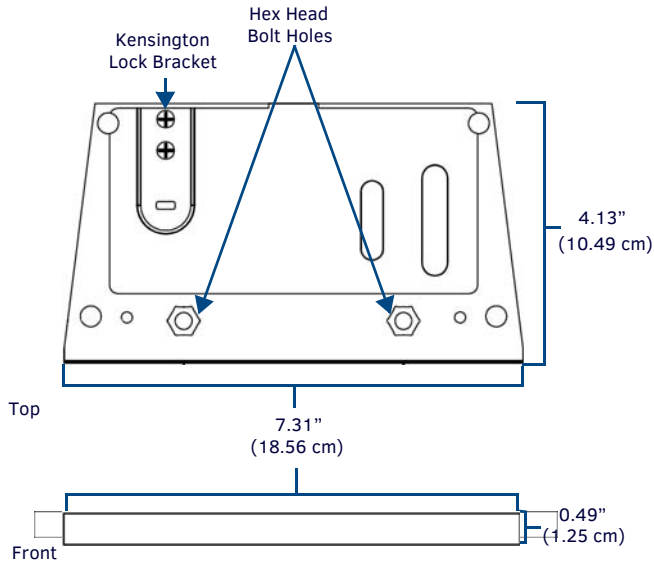
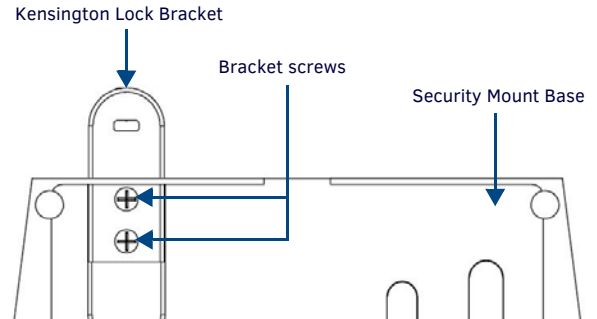

FIG. 1 MXA-STMK-07 SECURE TABLE MOUNT KIT
FIG. 8 KENSINGTON LOCK BRACKET INSTALLATION
- On the security mount base (FIG. 1), loosen the two screws holding the Kensington Lock bracket to the base (FIG. 8) and remove the bracket.
- Reverse the bracket in its slot so the rounded end faces outward (FIG. 8), and re-secure it to the security mount base with the two bracket screws. On the touch panel, turn the touch panel upside down and remove the 2 Phillips head screws from the bottom of the device.